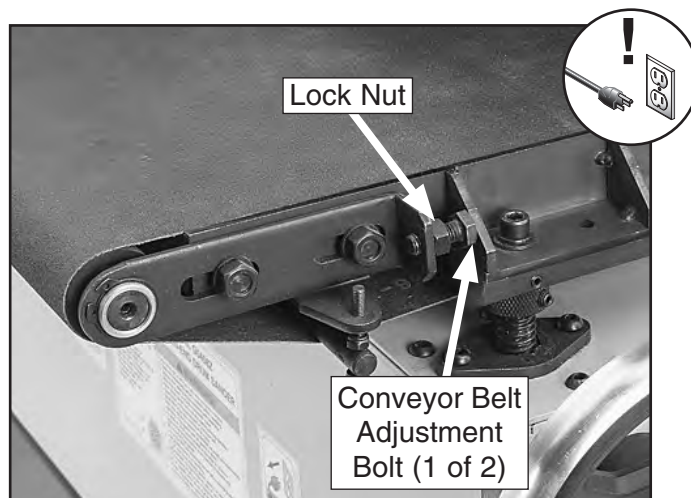

Figure 40. Conveyor belt tensioning controls.
2. Use a permanent marker to mark the front of the conveyor belt adjustment bolt (see **Figure 40**) on both sides. This step will aid you in returning the bolts to their original position, reducing the amount of tracking necessary.
3. Loosen lock nuts shown in **Figure 40**. Turn both of the conveyor belt adjustment bolts counterclockwise one full turn at a time to release tension from feed belt.